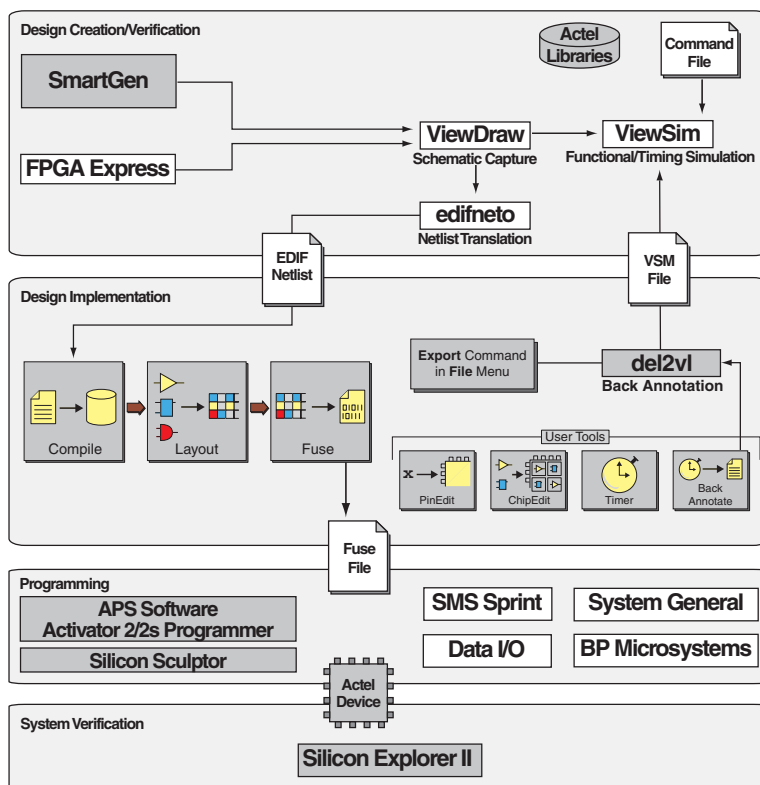

Figure 2-2. Actel-Innoveda Schematic-Based Design Flow
Figure 2-2 shows the schematic-based design flow for creating an Actel device using the eProduct Designer and Designer Series software¹.
1. The grey boxes in Figure 2-2 denote Actel-specific utilities/tools.